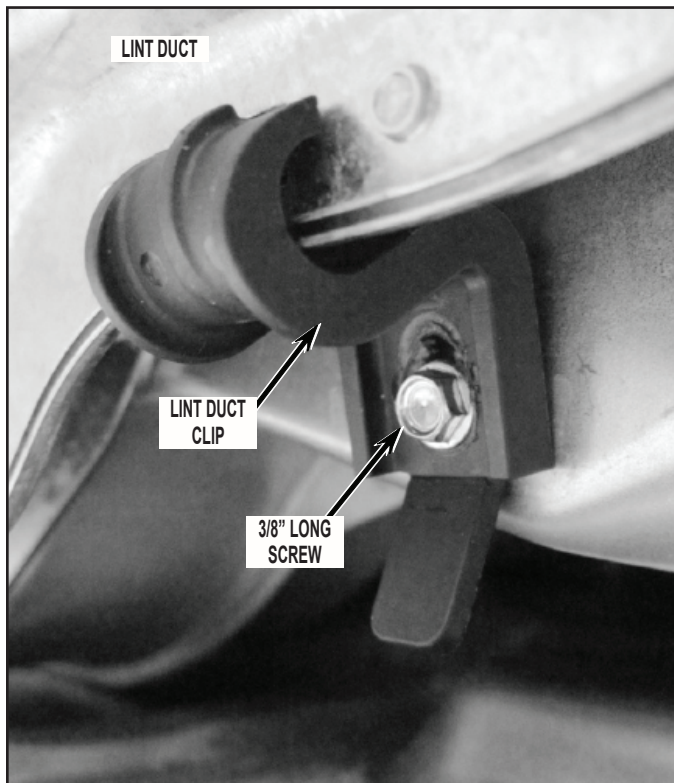

FIGURE 38
- When reattaching the blower housing lint duct and its screws, see *Figure 11*, verify the lower plastic lint duct clip is hooking the lint duct correctly. See *Figure 38*.